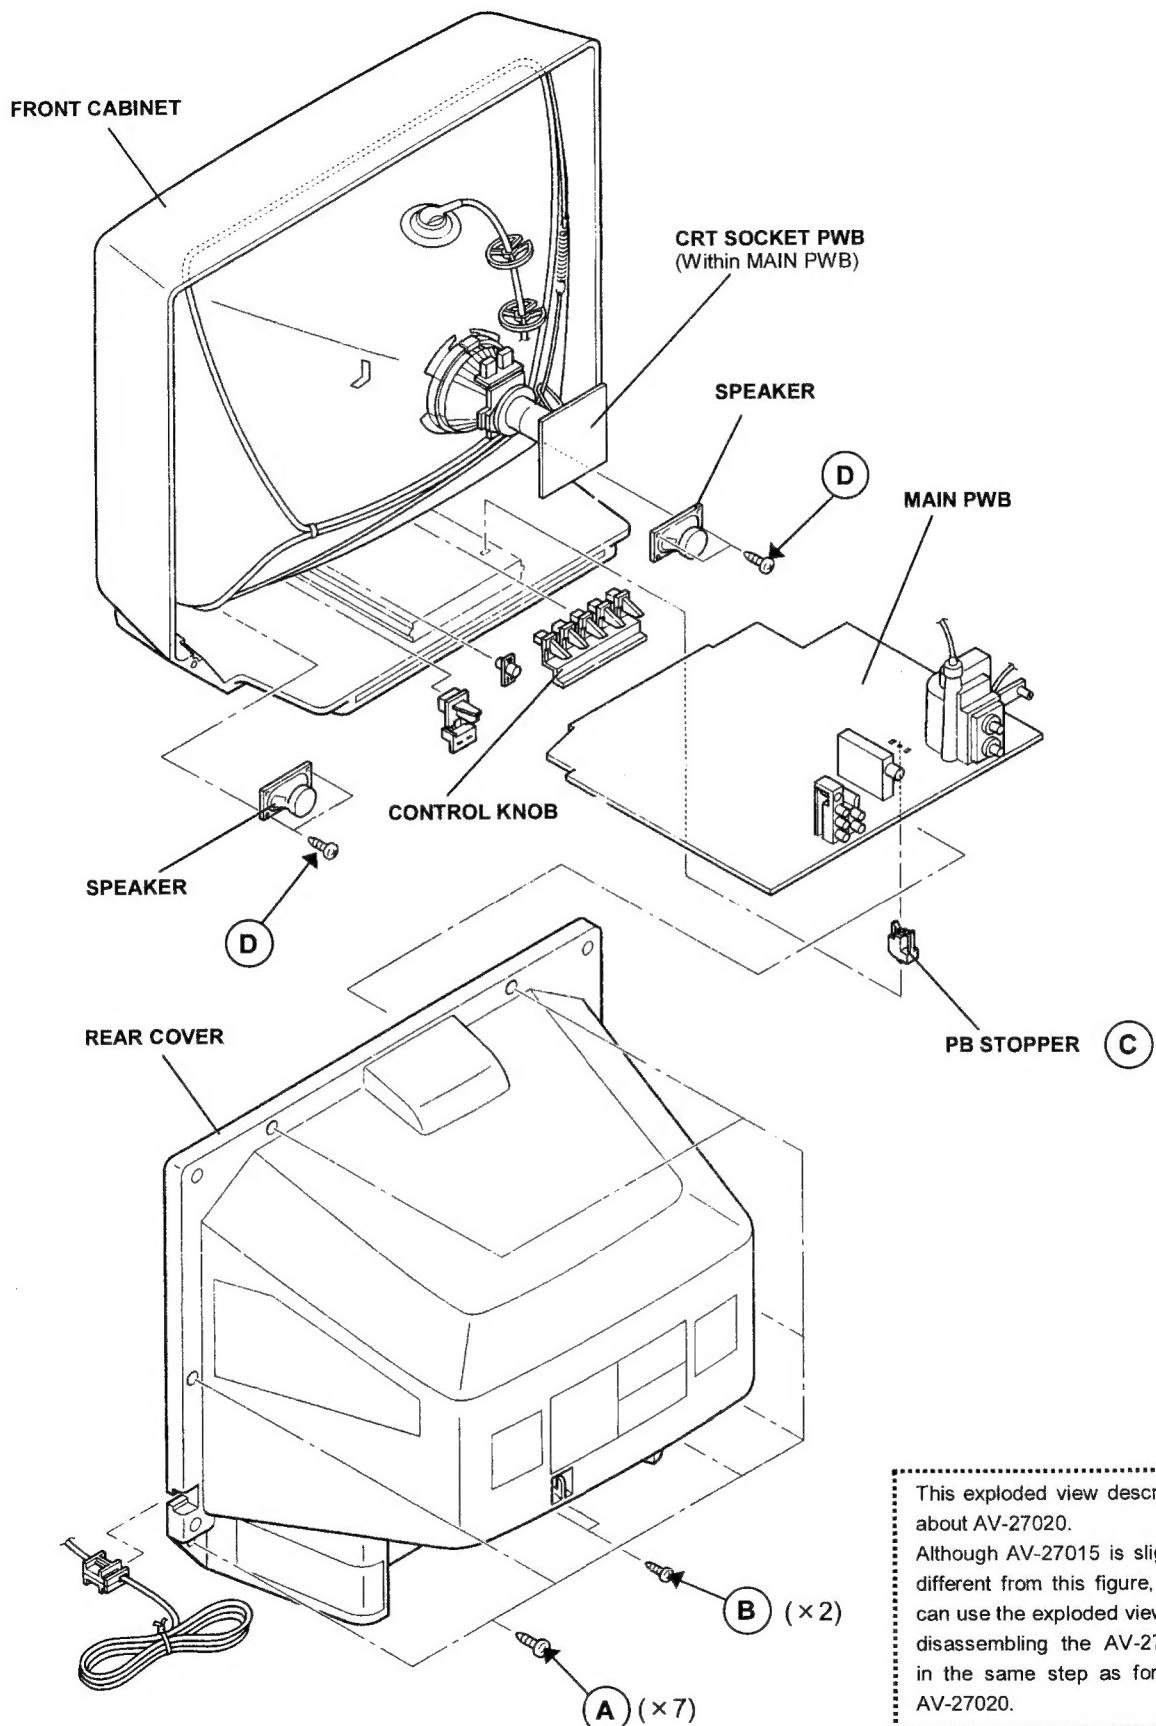

Fig.1
2. Remove the 7 screws marked (A) and 2 screws marked (B) as shown in Fig.1.
2. Remove the 7 screws marked (A) and a screw marked (B) as shown in Fig.1.
1. Remove the 2 screws marked (D) as shown in Fig.1.
(1) Power off Switch off the power and disconnect the power cord from the outlet.
(2) Replace the memory IC Initial value must be entered into the new IC.
(3) Power on Connect the power cord to the outlet and switch on the power.
(4) System constant check and setting 1) Press SLEEP TIMER key and, while the indication of " SLEEP TIMER 0 MIN. " is being displayed, press DISPLAY key and VIDEO STATUS key on the remote control unit simultaneously. 2) The SERVICE MENU screen of Fig.1 is displayed. 3) While the SERVICE MENU is displayed, again simultaneously press the DISPLAY and VIDEO STATUS keys to display the Fig.2 SYSTEM CONSTANT screen. 4) Refer to the SYSTEM CONSTANT table and check the setting items. Where these differ, select the setting item with the MENU UP/DOWN key and adjust the setting with the MENU LEFT/RIGHT keys. (The letters of the selected item are displayed in yellow.) 5) After adjusting, release the MENU LEFT/RIGHT key to store the setting value. 6) Press the EXIT key twice to return to the normal screen.	 SERVICE MENU PICTURE SOUND GAME LOW LIGHT HIGH LIGHT RF AFC CHK VCO(CW) SELECT BY EXIT BY OPERATE BY EXIT <p style="text-align: center;">Fig.1</p>
(6) User settings Check the user setting items according to Table 2. Where these do not agree, refer to the OPERATING INSTRUCTIONS (USER'S GUIDE) and set the items as described.
(7) SERVICE MENU setting Verify what to set in the SERVICE MENU, and set whatever is necessary.(Fig.1) Refer to the SERVICE ADJUSTMENT for setting.